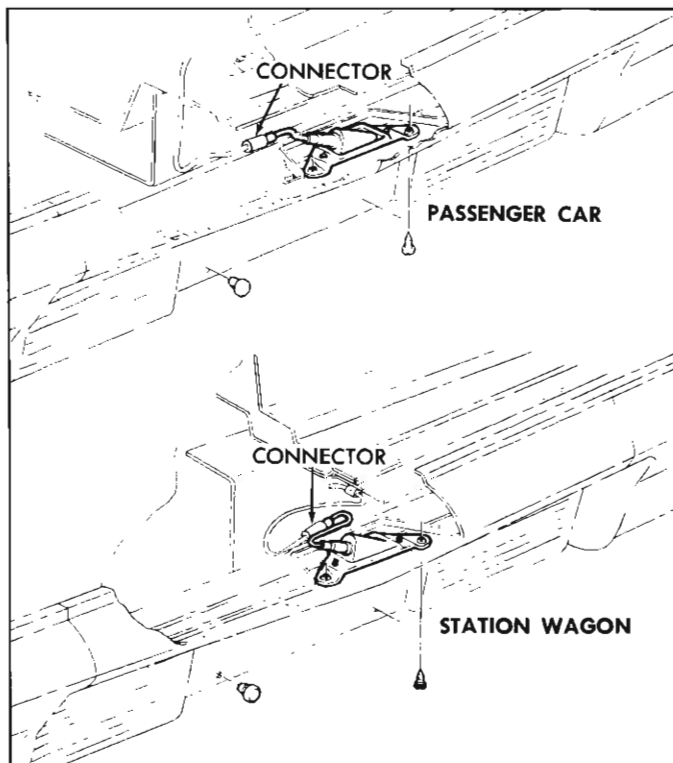

Fig. 97—Rear License Plate Lamp
1. Disconnect license lamp wire as shown in Figure 97.